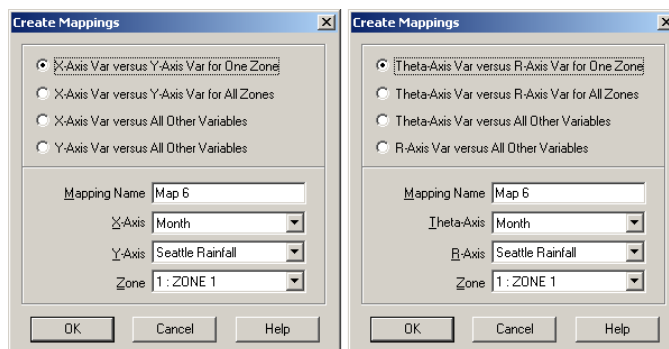

Figure 8-3. The Create Mappings dialog for XY Line plots (left) and for Polar Line plots (right).
2. Click Create Map. The Create Mappings dialog appears. The Create Mappings dialog for each line plot type is shown in Figure 8-3.